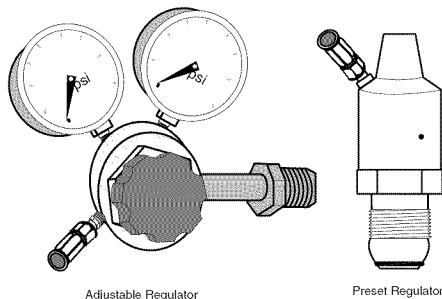

Figure 2. Gas Regulators
3. Screw the regulator supplied with this welder (see Figure 2) into the cylinder valve and tighten with a wrench.